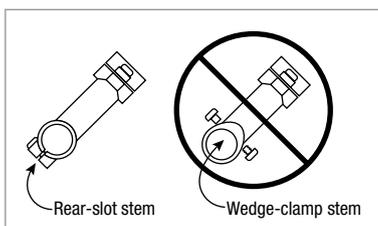

Figure 1
- ▲ WARNING:** Only use rear slot-style clamping stems on carbon steerers. Wedge-clamp stems must not be used and could result in failure (Fig. 1).